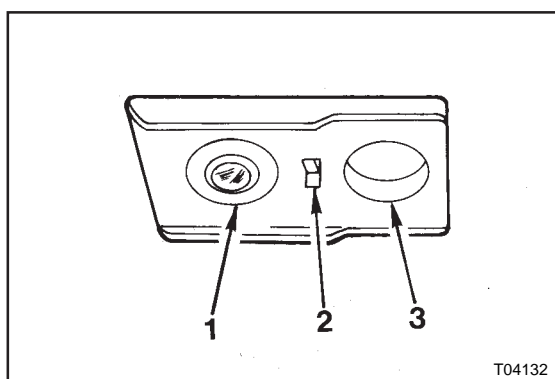

Figure 5: Rear passenger reading light
2. Undo and remove the retaining screws of the two rear passenger reading lights/air vents (see Figure 5). Pull the light/vent units from the moulding and disconnect the terminals.